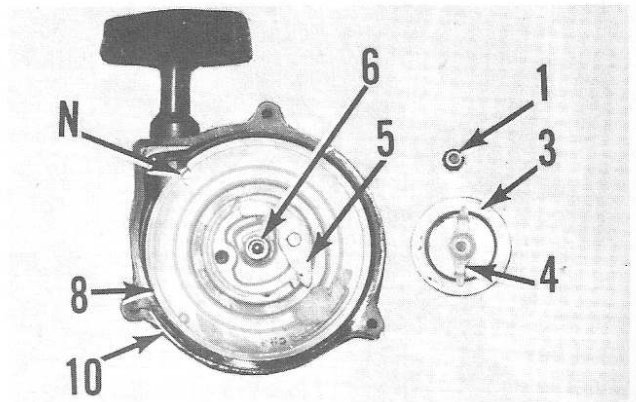

Fig. K1-11—Partially disassembled view of manual starter assembly typical of the type used on KLF models.
R&R AND OVERHAUL. Refer to Fig. K1-11 for a partially disassembled view of manual starter assembly. Manual starter can be removed from the vehicle as a
complete unit after removing the three starter retaining screws. If starter rope remains under tension, pull starter rope and hold rope pulley (8—Fig. K1-11) with notch (N) in pulley adjacent to rope outlet. Pull a loop of rope back through outlet so rope engages notch in pulley and allow pulley (8) to slowly unwind.